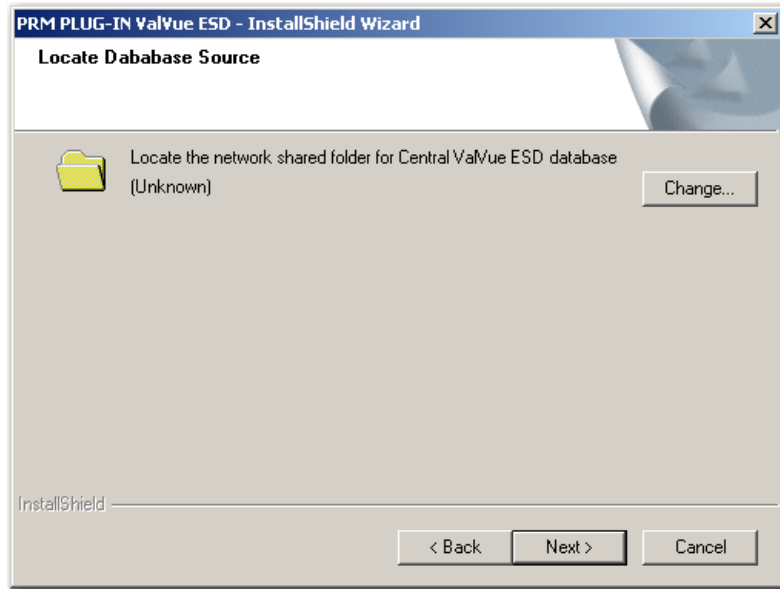

Figure 26 PRM Plug-In Client Database Location Destination Folder
- Navigate to the desired folder, click **OK** and **Next** and the screen appears (Figure 26).